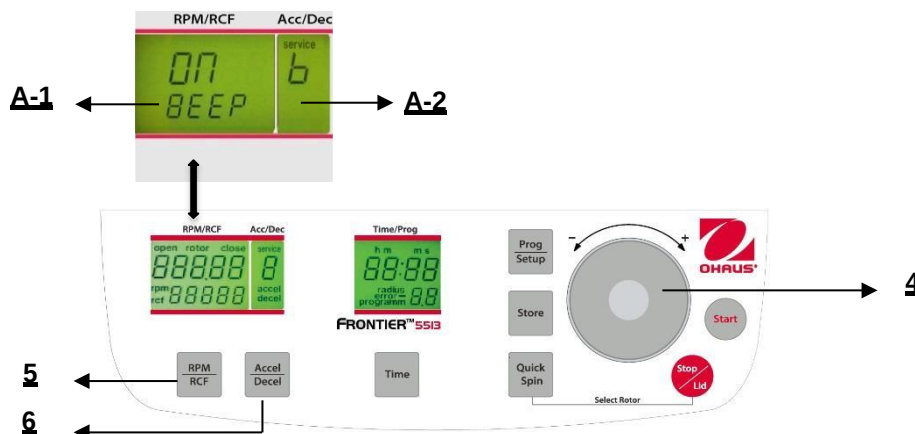

Figure. 30
Proceed as described under point 4.1.2 to enter this program mode and then press the key **"Accel/Decel"** (6). In the display **"Acc/Dec"** (A-2) the word **"Service"** flashes. Now select the letter **"B"** with the adjusting dial (4). As a result, in the display **"RPM/RCF"** (A-1), the word **"ON/BEEP"** appears. After pressing the key **"RPM/RCF"** (5), you can turn the keyboard sound (On) or (Off) with the adjusting dial (4). (see figure 30).